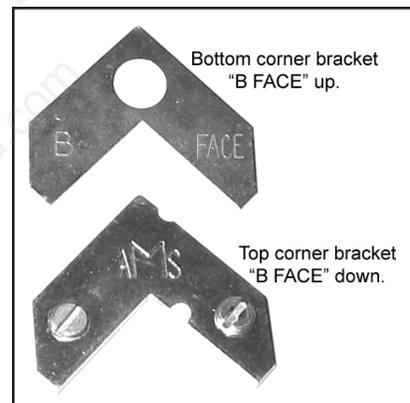

Figure 17: Two pieces of corner bracket.
There are two (2) main pieces to each corner bracket (see Figure 17). When installing the corner pieces into the trim the "B FACE" sides must face each other and the screw heads are to face out. With the bracket in place and the top and a side trim snug together use a flat head screwdriver to turn the two (2) screws in the bracket in to tighten it into the trim.